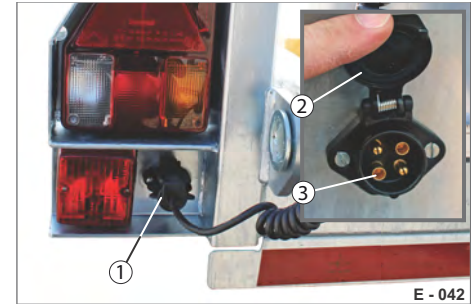

Fig. 30 Inserting licence plate light
- ▶ Open the cover of the socket (Fig. 30/1) and insert the plug (Fig. 30/3).